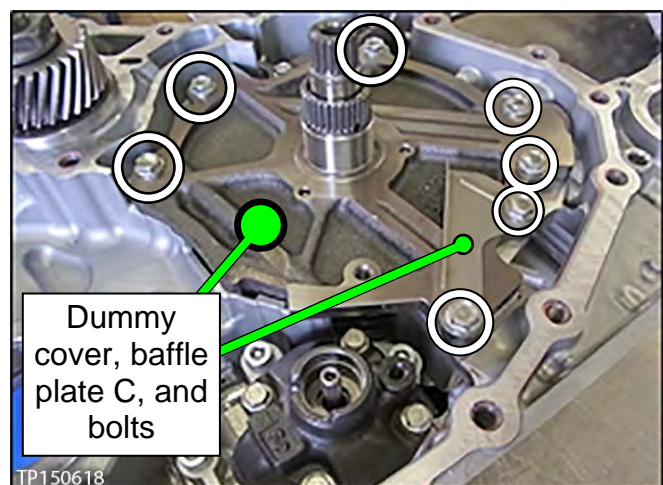

Figure 5I
- Install the dummy cover first, then baffle plate C, and then the related bolts finger tight (Figure 5I).